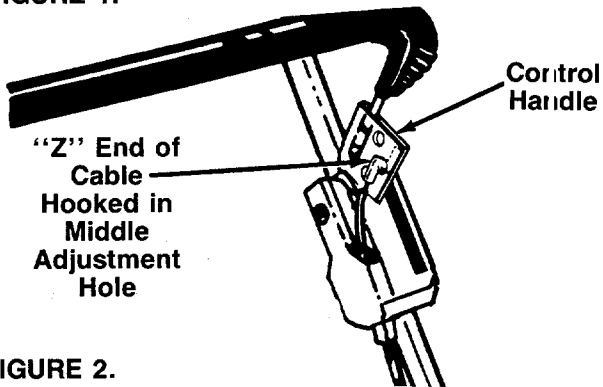

FIGURE 2.
3. Connect the control cable to the control handle by hooking the "Z" end of the control cable into the middle hole in control handle. See figure 2.